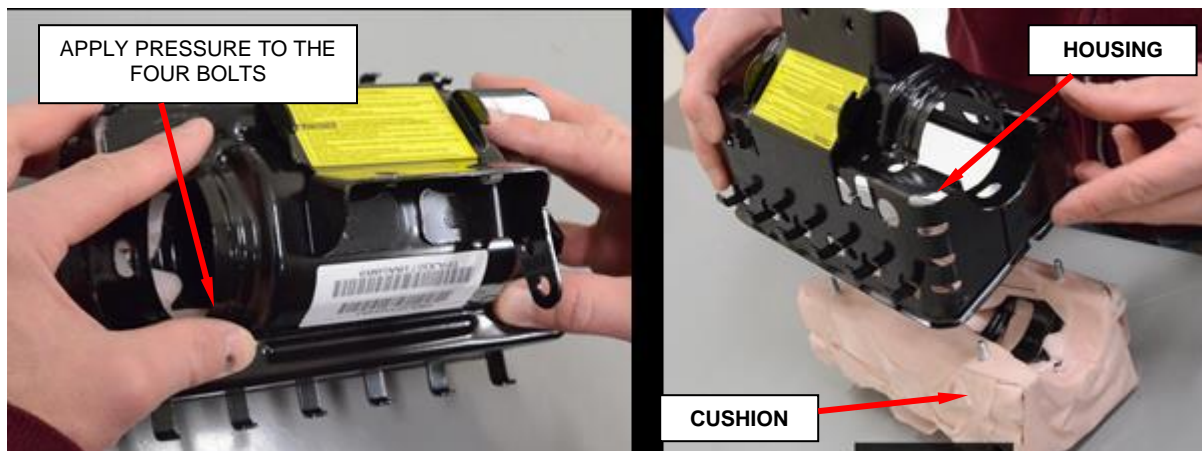

Figure 123 – Remove Airbag Cushion from Housing
- h. Remove airbag cushion from housing by applying pressure to the bolts, set cushion aside (Figure 123).